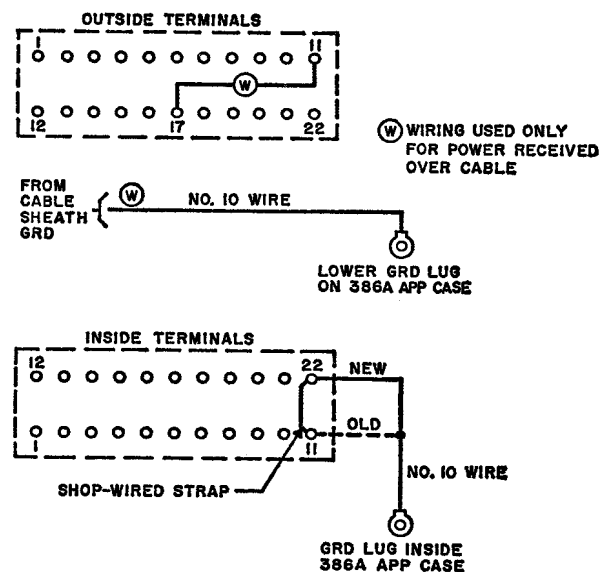

Fig. 1 — Modification of Grounding Arrangement for All P1 Carrier Repeater 386A Apparatus Cases
2.01 *386A Apparatus Cases:* Modification is made on the inside and outside terminal blocks. Fig. 1 shows changes to be made.